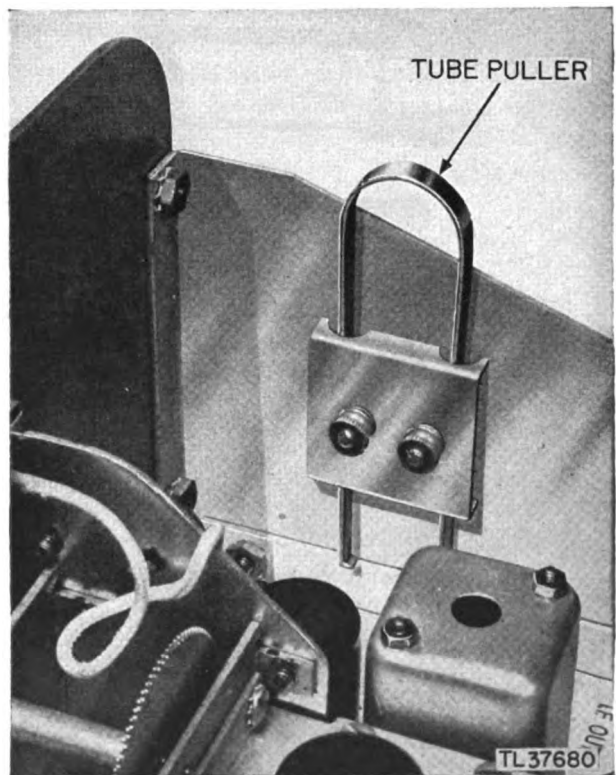

Figure 3. Receiver chassis, portion showing tube puller.
c. **TUBE PULLER.** Mounted inside the receiver chassis (fig. 3) is a tube puller used to remove the metal tubes from their sockets. This tool is used by inserting the prongs into the slots at the base of the tube and gently rocking the tube from the socket. Be sure to grasp both the tube puller and tube.